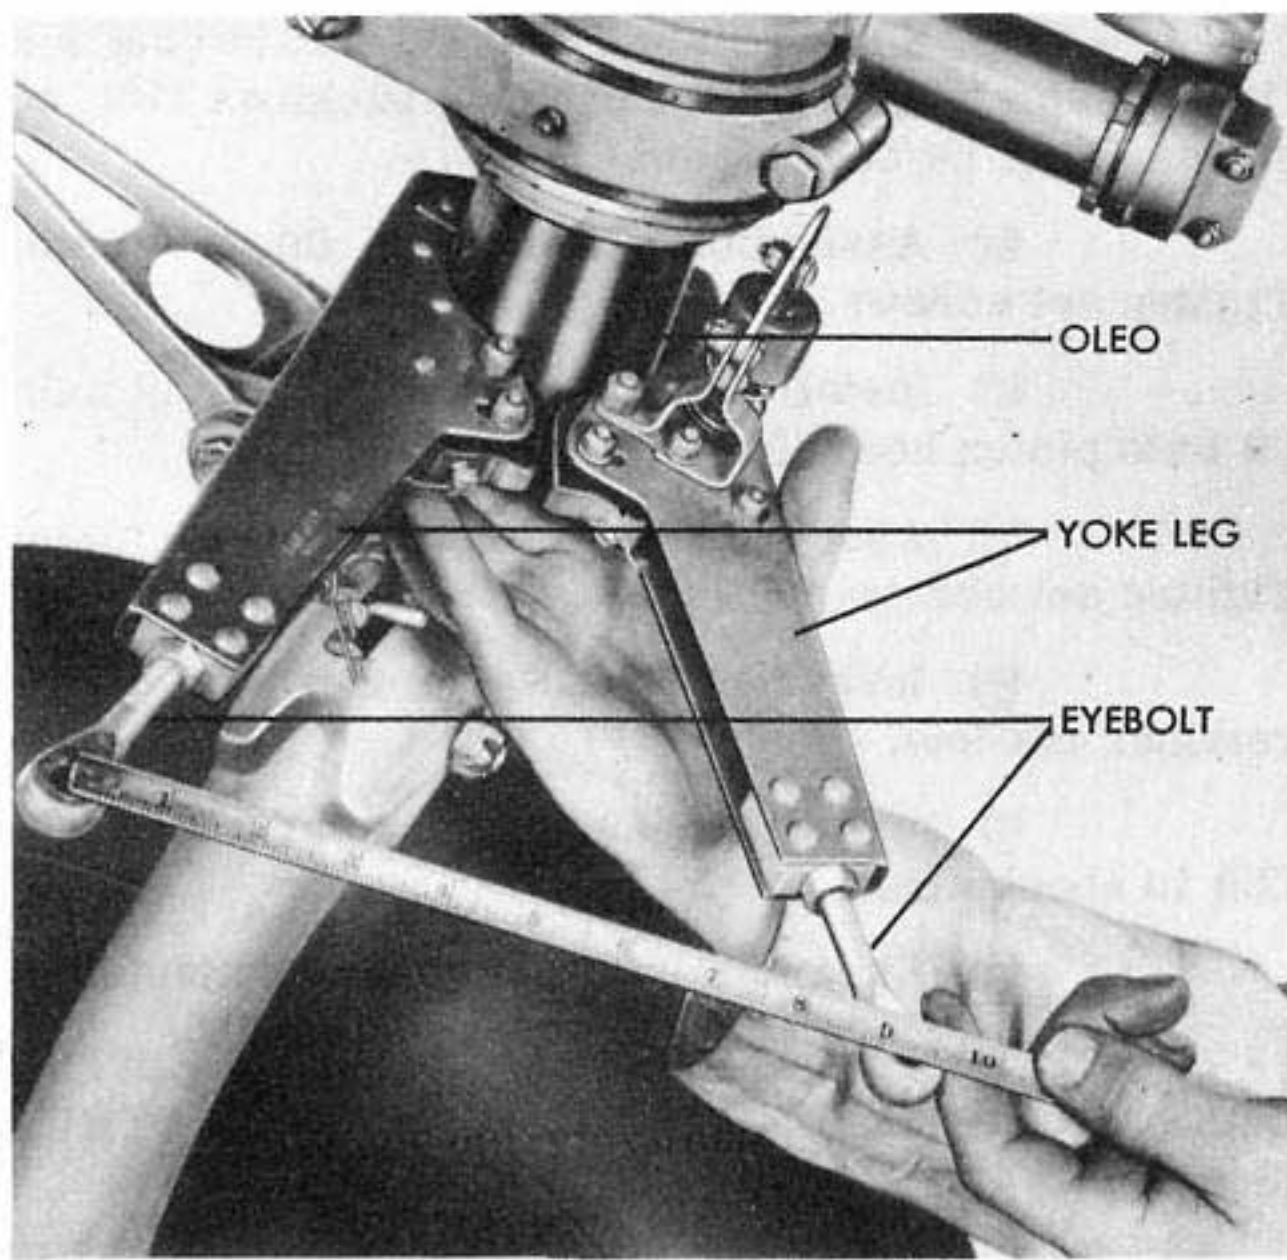

Figure 83- ADJUSTING NOSE WHEEL DOORS
(1) ADJUSTMENT OF NOSE WHEEL DOORS. (See figure 83.)